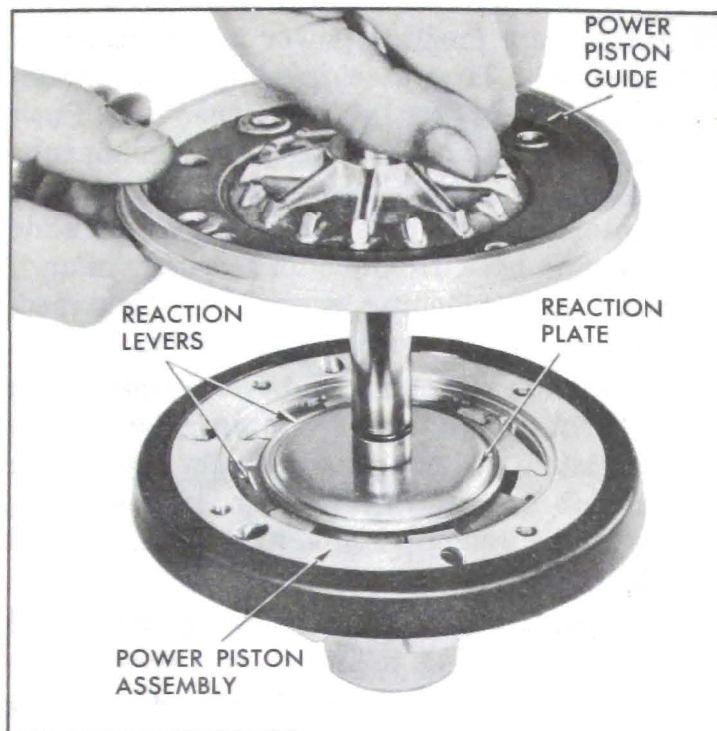

Figure 9-26—Installing Piston Guide
13. Lubricate center hole of power piston guide with silicone grease. Holding hydraulic piston vertical with reaction plate down, start piston guide ribbed side up on piston. Set reaction plate square and centered over reaction levers, then lower quickly to hold levers in position while compressing springs. In this step, watch that wide end of a lever does not jump out of its seat. See figure 9-26. Hold pressure while sliding piston guide down over hydraulic piston for installation of screws. Note that reaction levers must hold position, piston guide must clamp leather cup while expander and wick hold position under cup, and all holes must align—all at the same time. When correct, install screws and torque to 5-6 ft. lbs. **NOTE:** *To assure that reaction levers are properly*